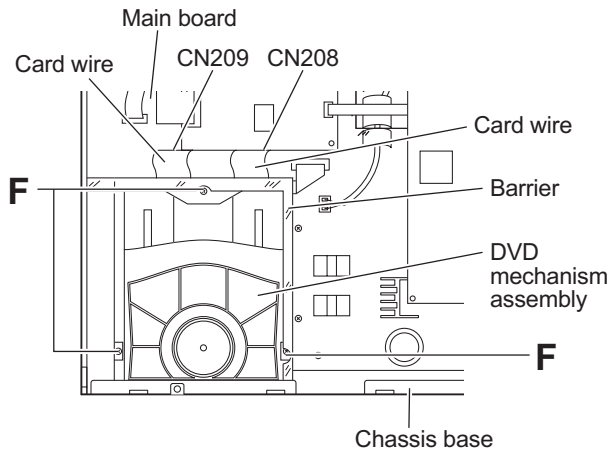

Fig.9
2.1.3 Removing the DVD mechanism assembly (See Fig.9.)